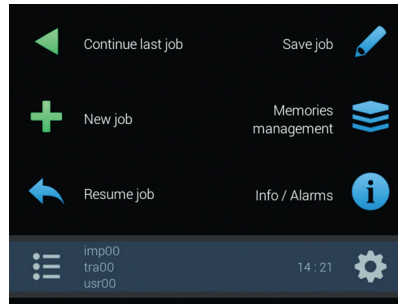

Fig. 241
- Turn the monitor on (par 1.2). After self-diagnostics, the monitor displays the "Home" screen (Fig. 241).